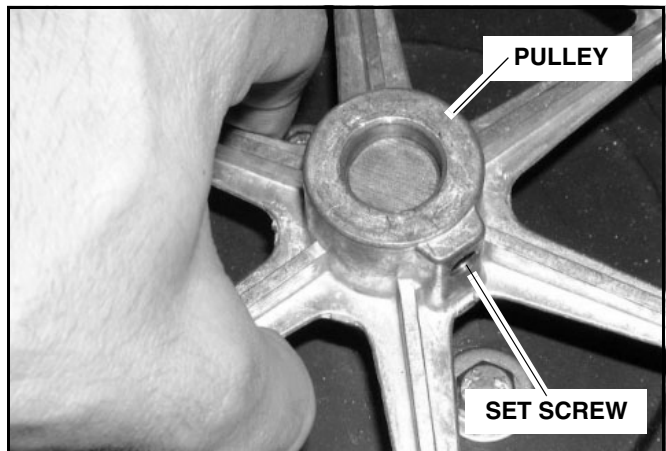

Figure 3
3. Loosen set screw and remove pulley (See Figure 3).